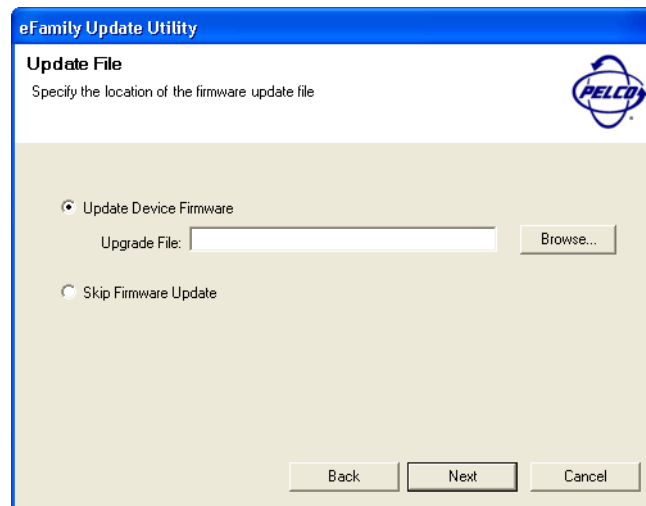

Figure A-8: Example Use Of Path To Upgrade File Screen
- 3. The eFamily Update Utility file will have an .iti or .xml extension. Use the “Browse...” button to navigate to the file and open it. Refer to Figures A-8 and A-9.**